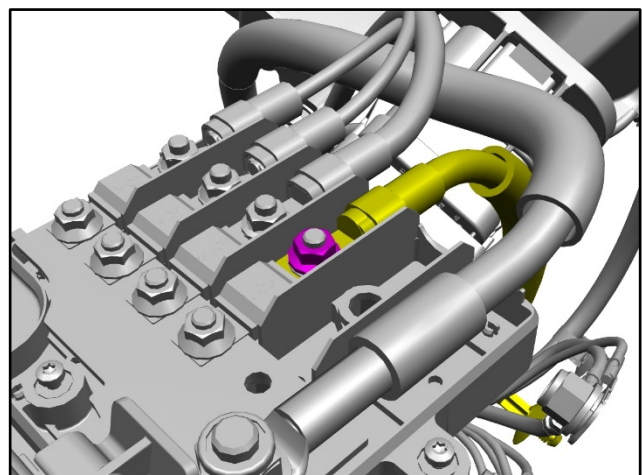

Figure 3
5. Remove the nut that attaches the cable to the fuse box (refer to Figure 3).